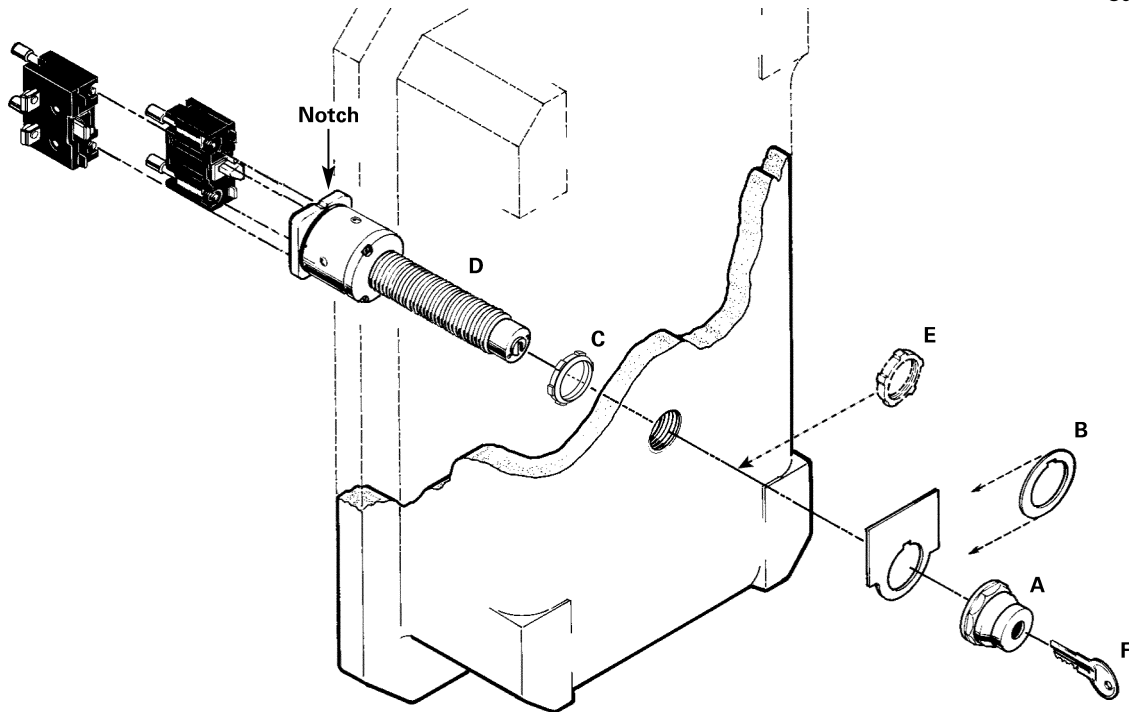

Figure 1
6. From inside the enclosure, install assembly **D** through a 3/4 inch 14NPSM tapped hole until the front of the bushing projects 5 or 6 threads from the front surface of the enclosure. Position the assembly with the notched edge of the square cam housing facing up as shown in Figure 1.